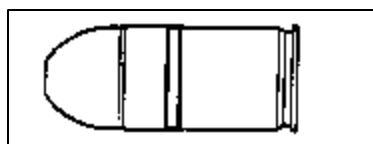

Figure 59. Typical U.S. 40mm grenade.
- (7) The 40mm grenade system consists of small projectiles, fired from a 40mm grenade launcher, with a range up to 450 meters. This system is also highly versatile. Its munitions include HE frag, HEAT, DP, riot control, smoke, signal, APERS shot, bounding ICM, WP, and practice. The HE frag (shown in Figure 59) is the most common grenade used.